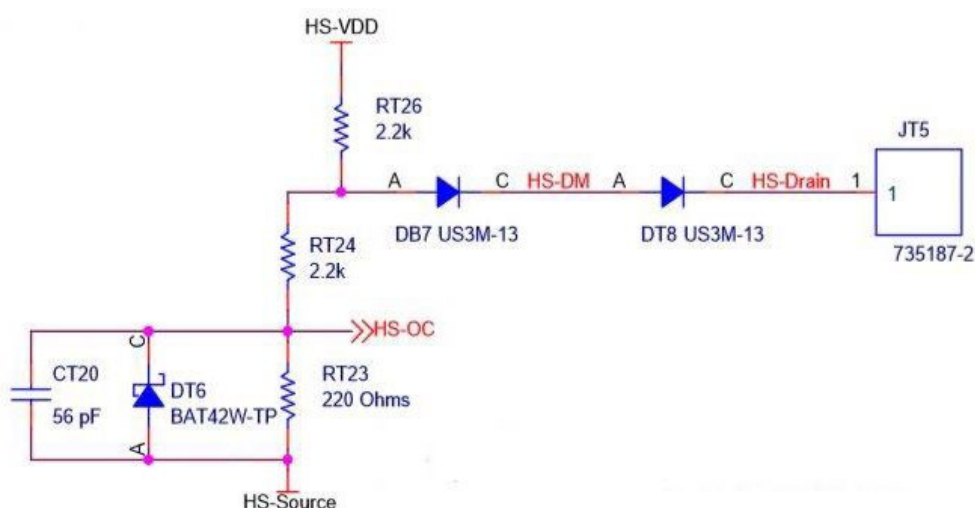

Figure 4: Overcurrent detection circuit
The UCC21710 gate driver over-current protection based on a desaturation circuit is implemented by Figure 4 on this board. An overcurrent (OC) fault is an indication of an over-current event in the SiC MOSFET or power module. The OC protection circuit measures the drain-source voltage, and the fault will indicate if this voltage has risen above a level corresponding to the safe current limit. When a fault has occurred the corresponding gate driver channel will be disabled, and the gate will be pulled down. The FAULT-OUT* pins indicate the fault detection. The device is latched unless the reset signal is received from the Reset-Input pin. The latching fault only disables the output of the device that detected the fault. The other device may continue to operate based on the PWM inputs.